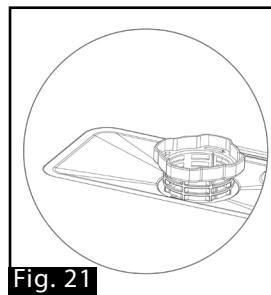

Fig. 21
2. Take the stainless steel filter out at the same time (Fig. 21).